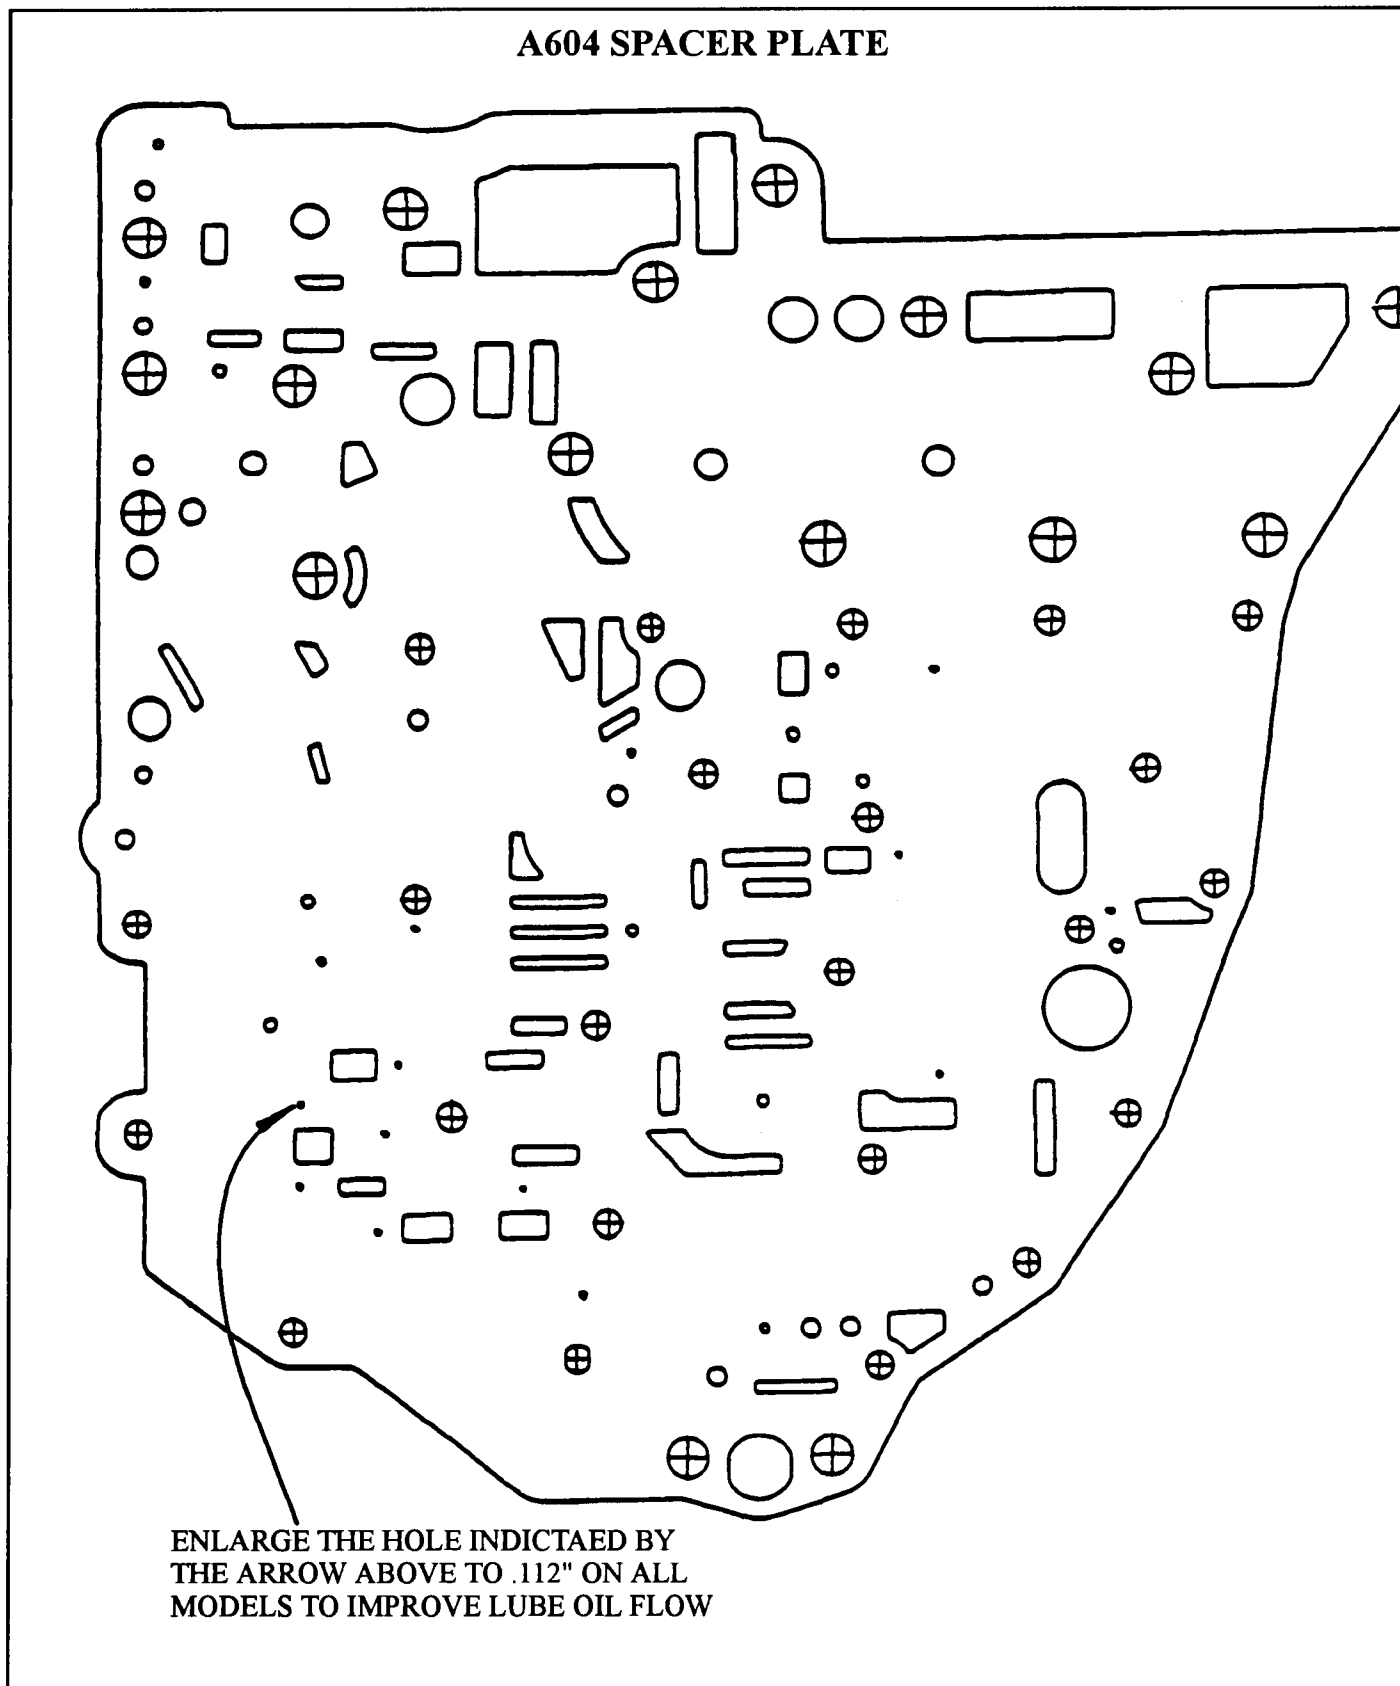

Figure 44
- (3) **VALVE BODY SPACER PLATE** - Lube feed hole in spacer plate has been enlarged to .112", as shown in Figure 44.
Cooler bypass check valve assembly "WILL NOT" retrofit back to previous models, unless the new transaxle case is installed at the same time. The lube feed hole in the spacer plate can be drilled to .112" on all models to improve lube oil flow (See Figure 44).
- (2) Enlarge lube hole in the spacer plate to .112" as shown in Figure 44 on page 57. This can be done on all models regardless of bypass valve installation, to improve lube flow to the transaxle.
- (3) Refer to the appropriate instruction sheet, included in this bulletin, as installation procedures vary depending on vehicle model.